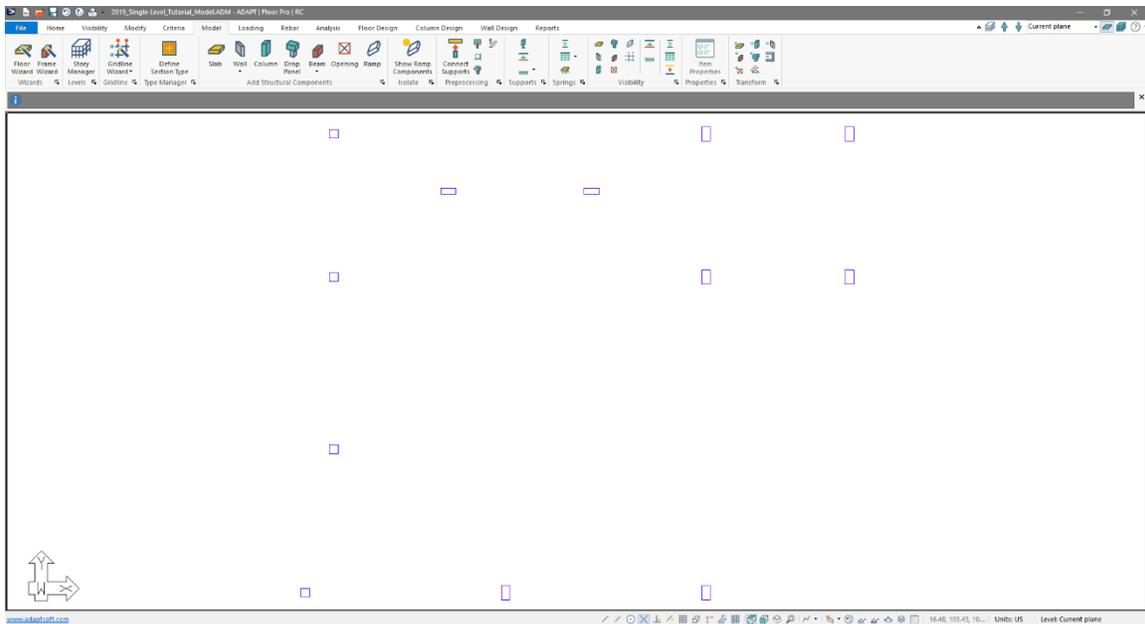

Figure 2-29
- Go to *Model* → *Transform* and click on the *Transform Column*  icon. This will automatically create the column builder objects based on the outline of the polylines from the DWG as shown in **FIGURE 2-29**.